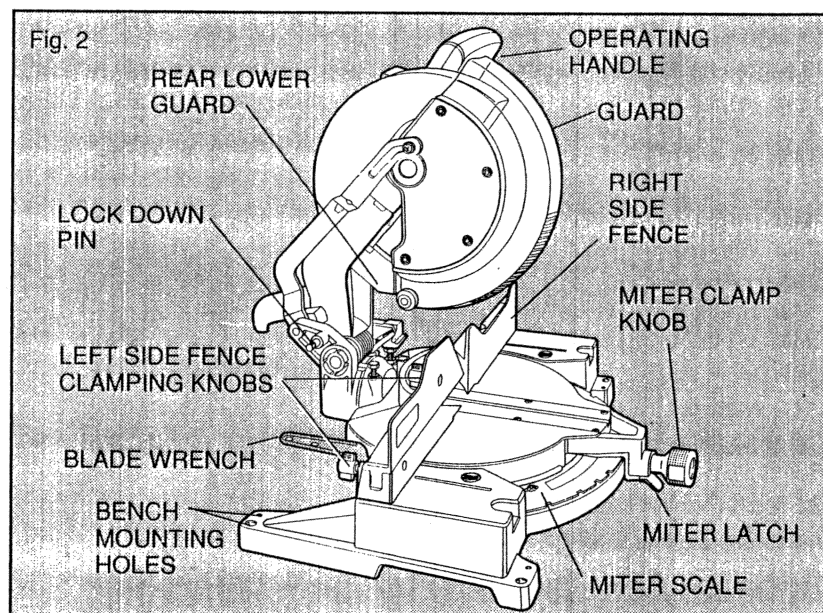

Fig. 2
3. One blade wrench in wrench pocket shown in Fig. 2
Examine Figures 2 & 3 to become familiar with the saw and its various parts. The following section on adjustments will refer to these terms and you must know what and where the parts are.
Holes are provided in all four feet to facilitate bench mounting, as shown in Figure 2. (Two different sized holes are provided to accommodate different sizes of screws. Use either hole, it is not necessary to use both.) Always mount your saw firmly to prevent movement. To enhance the tool's portability, it can be mounted to a piece of 1/2" or thicker plywood which can then be clamped to your work support or moved to other job sites and reclamped. **NOTE:** If you elect to mount your saw to a piece of plywood, make sure that the mounting screws don't protrude from the bottom of the wood. The plywood must sit flush on the work support. When clamping the saw to any work surface, clamp only on the